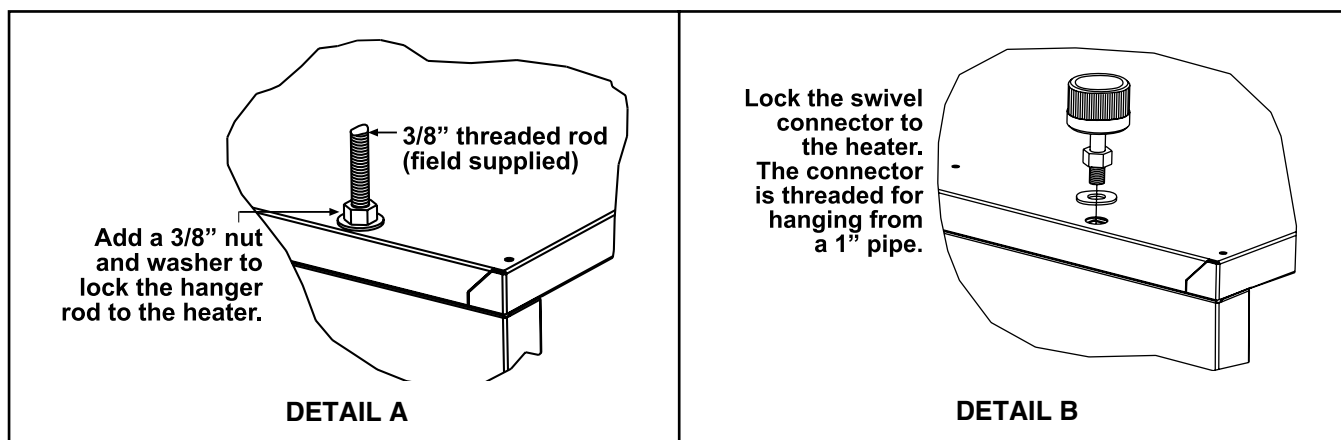

Figure 6. Heater Suspension
**1. Suspending heater using field-supplied 3/8-inch threaded rods (see Figure 6, DETAIL A):**
**2. Using swivel connectors to suspend heater from 1-inch pipes (see Figure 6, DETAIL B):**